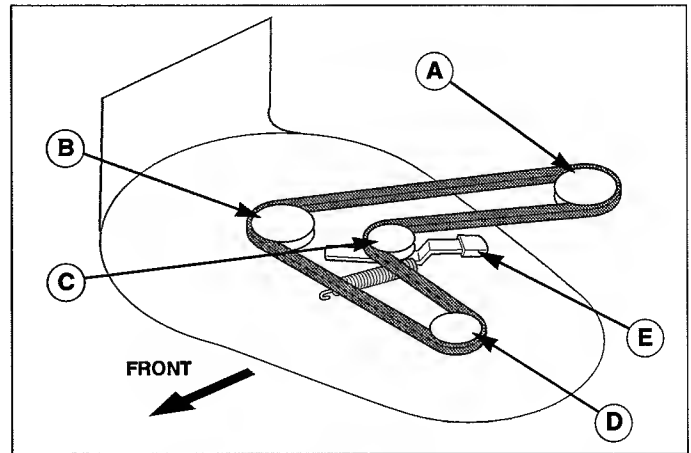

Figure 30. 38" Mower Belt Routing
4. Install the new belt as shown in Figure 30.